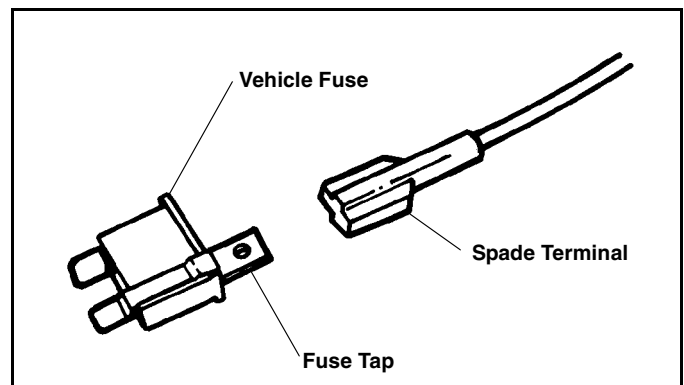

Figure 1-5
13. Using a test probe, determine the fused “Dead/OFF” side of the fuse and attach the A.T.O. fuse tap to that side of the fuse. (See Figure 1-5).